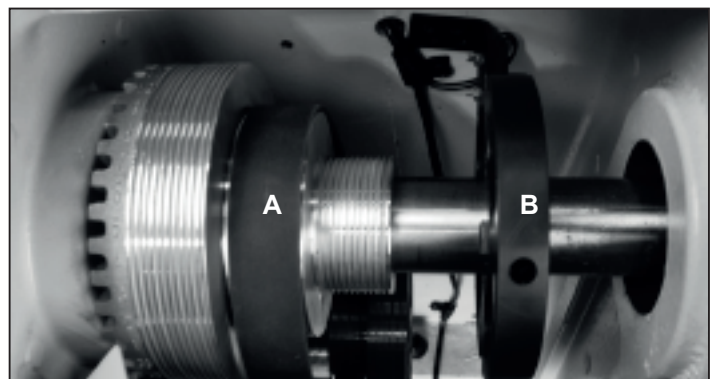

Fig.6.5.5
NOTE: There are 2 sets screws in each hole, one stacked upon the other. Remove the top set screw then loosen the bottom set screw. Fig.6.5.5, A.
9. Unscrew the Set Screws (#B20) that attach the Plastic RPM Reader Disc (#B18) to the spindle. Fig.6.5.5 B.